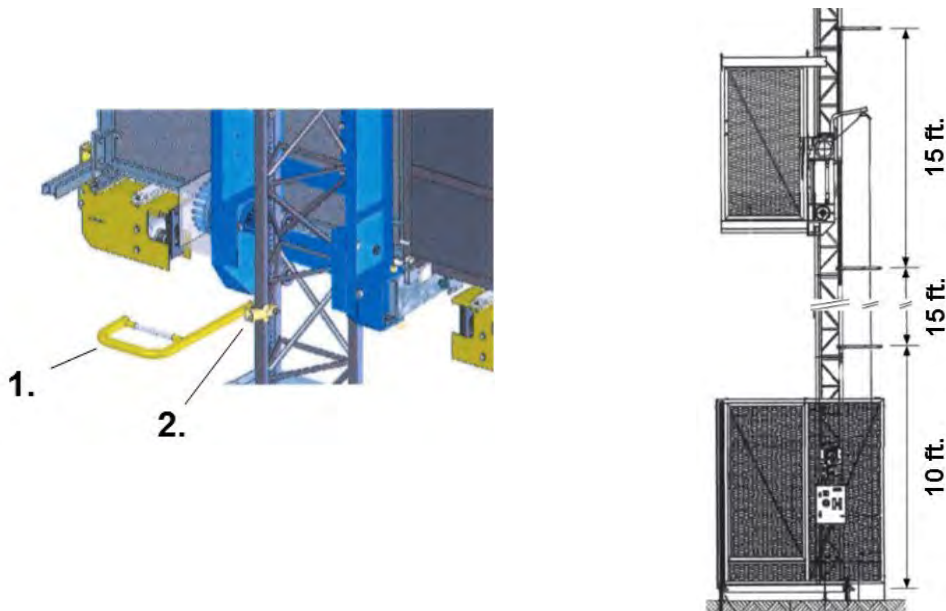

Figure 6.16
To mount the cable guide, proceed as described below, with reference to Figure 6.16:
- Mount the cable guide (1) on the rear rods of the vertical mast; fasten it with the appropriate clamps (2) and verify the correct alignment with the cable container. The first cable guide must be mounted at a height of 10 ft (from the base, the second at a distance of 15 ft from the first one and subsequently at intervals of 15 ft, as shown in Figure 6.16.